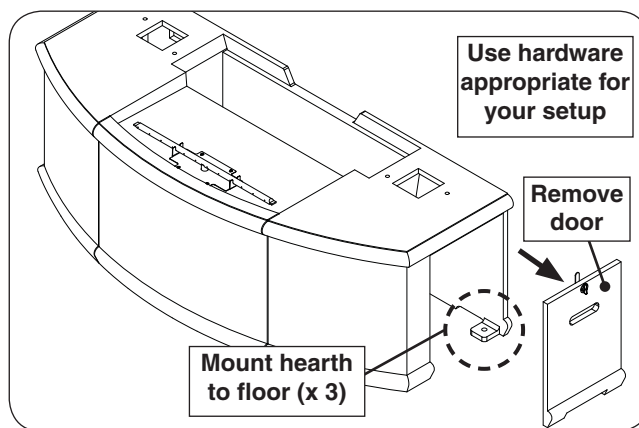

Fig. 19-1 Place hearth, remove door, mount hearth
1. **CAREFULLY** place the hearth piece in an appropriate location (refer back to the LOCATION section if needed). See Fig. 19-1.
2. Remove the storage door by first turning the door handle counter-clockwise, then carefully pulling the door outward (see Fig. 19-1). Store in a safe location.
3. Using appropriate mounting hardware for the floor material/construction, secure the hearth into the floor. The interior of the base has three $\frac{1}{2}$ " holes that will allow for the hearth to be fastened to the floor. See Fig. 19-1.